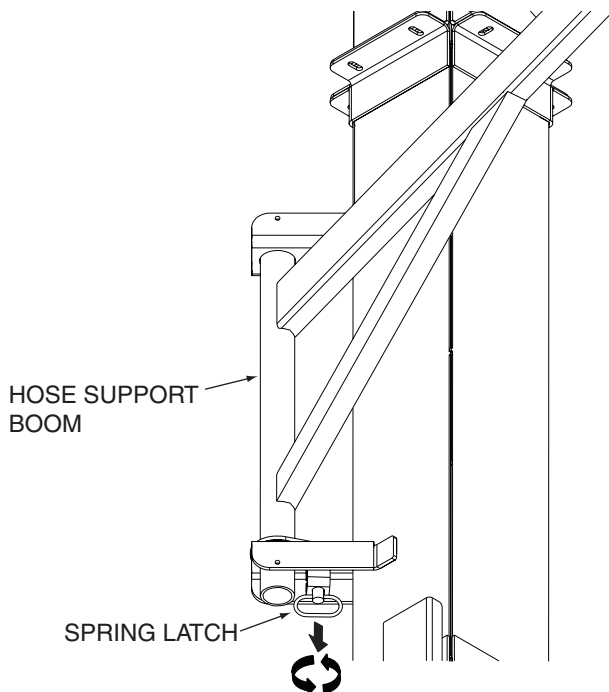
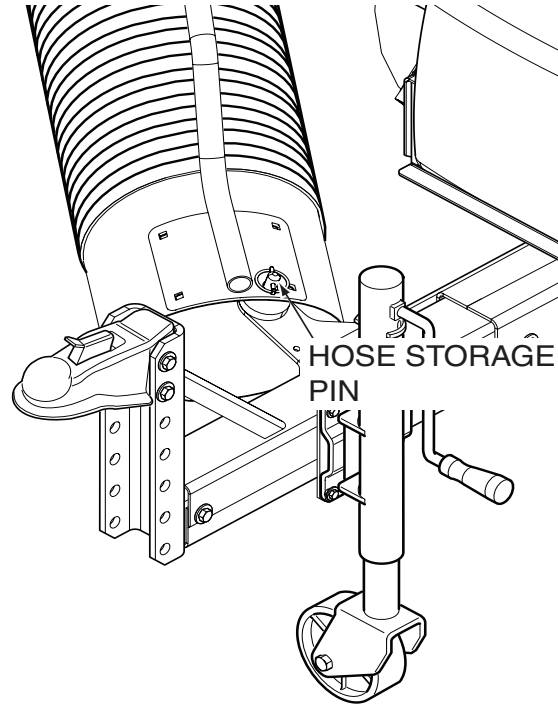

Figure 4-6. Locking the Hose Support Boom
Figure 4-7. Hose Storage Pin
1. When machine is not in operation, in storage or transporting, lock the hose support boom and secure hose on the storage pin. Pull and turn the spring latch to lock the pin securing the hose support boom in the transport position. See Figure 4-6 & Figure 4-7.